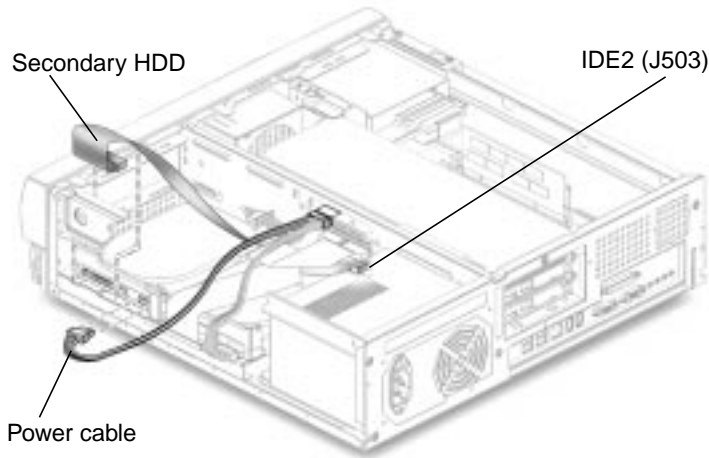

FIGURE 7-5 Secondary Hard Drive Cabling Configuration
10. Verify that the secondary IDE cable connector is connected to riser board connector IDE2 (J503). See FIGURE 7-5.
13. Connect the power cable to the secondary hard drive (FIGURE 7-5).